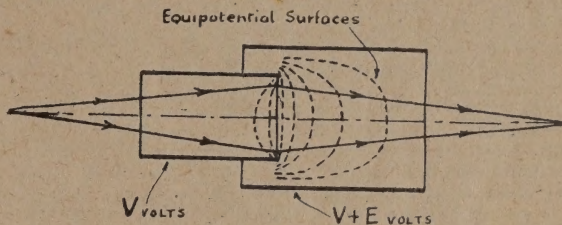

Fig. 1.
Let us first consider the electro-static lens, as being simpler in action. Fig. 1 represents such a lens, consisting of two concentric tubes held at different potential levels. The curved lines represent
Fig. 1. Showing the three main parts (A), (B) and (C) for a valve unit suitable for miniature valves. The fourth drawing (at the bottom) shows how the three parts are fitted together.
Since the coils are mounted together in a compact unit, then why not have a similar unit which contains the valves and their associated small parts? This, for want of a better term, could be called a "valve unit," and a suitable design is shown in Fig. 1.
The unit consists of a small box, 1 1/2 in. square by 6 in. long, and has been illustrated for the case where an R.F. stage, a mixer, and a separate oscillator are to be used. Suggested dimensions are given, but there has been no attempt to lay down these rigidly; as the exact dimensions can be made to suit the types of valve being used. Fig. 1 (a), at the top, shows that the basic structure is the flat plate which has the valve socket holes in it, together with two partitions mounted across the R.F. and mixer sockets. The most important of these is that across the R.F. tube socket. There is a slot cut in the partition to allow the socket to be inserted, and this slot is made to fit the cross-section of the socket used, as closely as possible. The tube is then mounted so that the partition cuts diametrically across the socket, missing the four pins between which it passes, and making snug contact with the tubular shield. By turning the socket in the appropriate direction before drilling the mounting holes, one can arrange matters so that the grid pin of the R.F. amplifier falls inside the front compartment and the plate pin inside the middle one. The mixer socket is mounted similarly, so that the signal-grid comes in the middle compartment. The plate of the mixer tube can come in either the back or the middle compartment, since this electrode does not carry appreciable voltage at signal frequency, and so cannot readily cause the tube to oscillate at signal frequency. It is best, however, to have it in the rear compartment, because some mixers may develop enough voltage at I.F. for it to be dangerous to have the signal grid in the same box as the plate. In the case illustrated, it will be noticed that there is no cross-socket shield provided for the oscillator